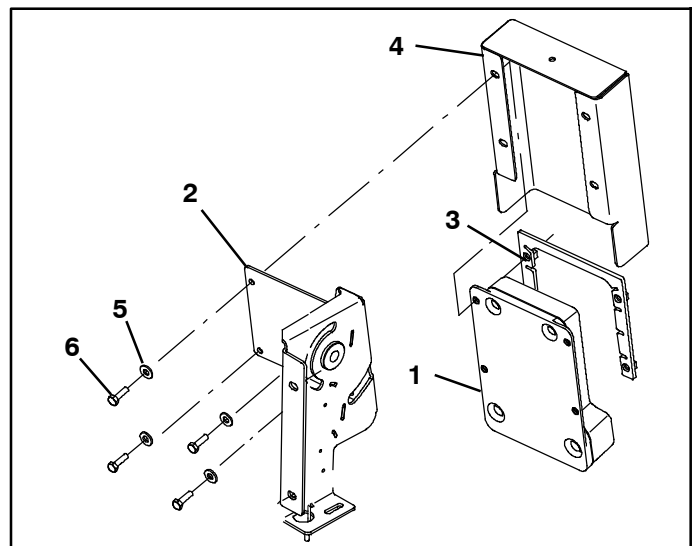

FIG. 6
6. Using parts (3, 4, 5, 6), install the telemetry control box (1) to squeegee lift bracket (2) as shown. (FIG. 6)